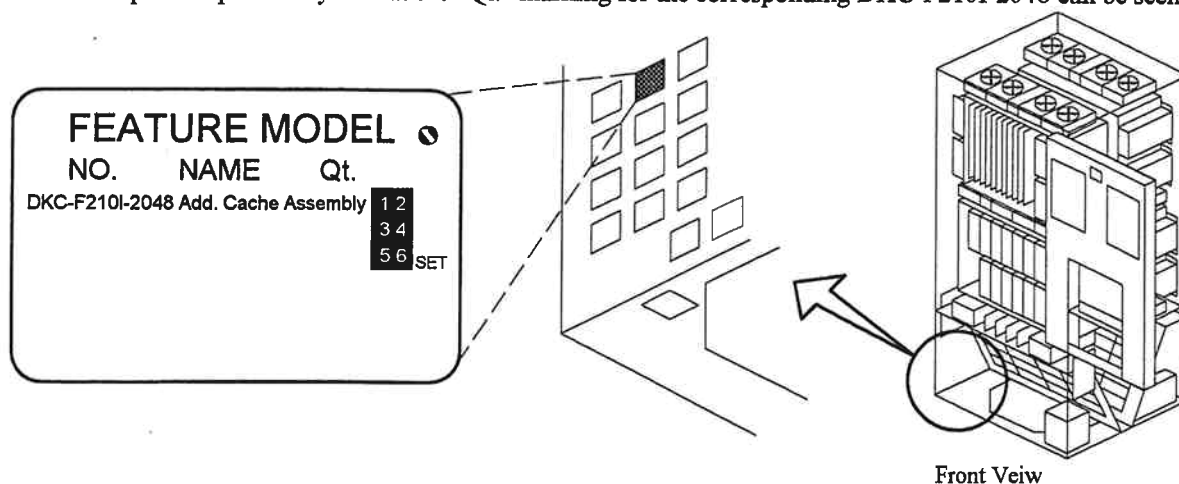

Fig. 3.4.1.5.2-3 Location of the Nameplate
- a. Refer to Figure 3.4.1.5.2-3 and Table 3.4.1.5.2-3 to paint out unnecessary numbers and wipe off a necessary number painted previously so that the "Qt." marking for the corresponding DKC-F210I-2048 can be seen.